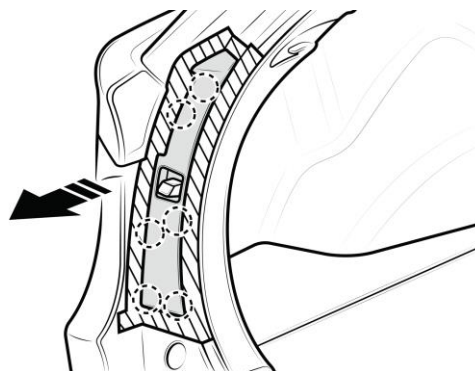

Fig 4-1
- (a) Disengage the claws to remove LH cover (Fig. 4-1)